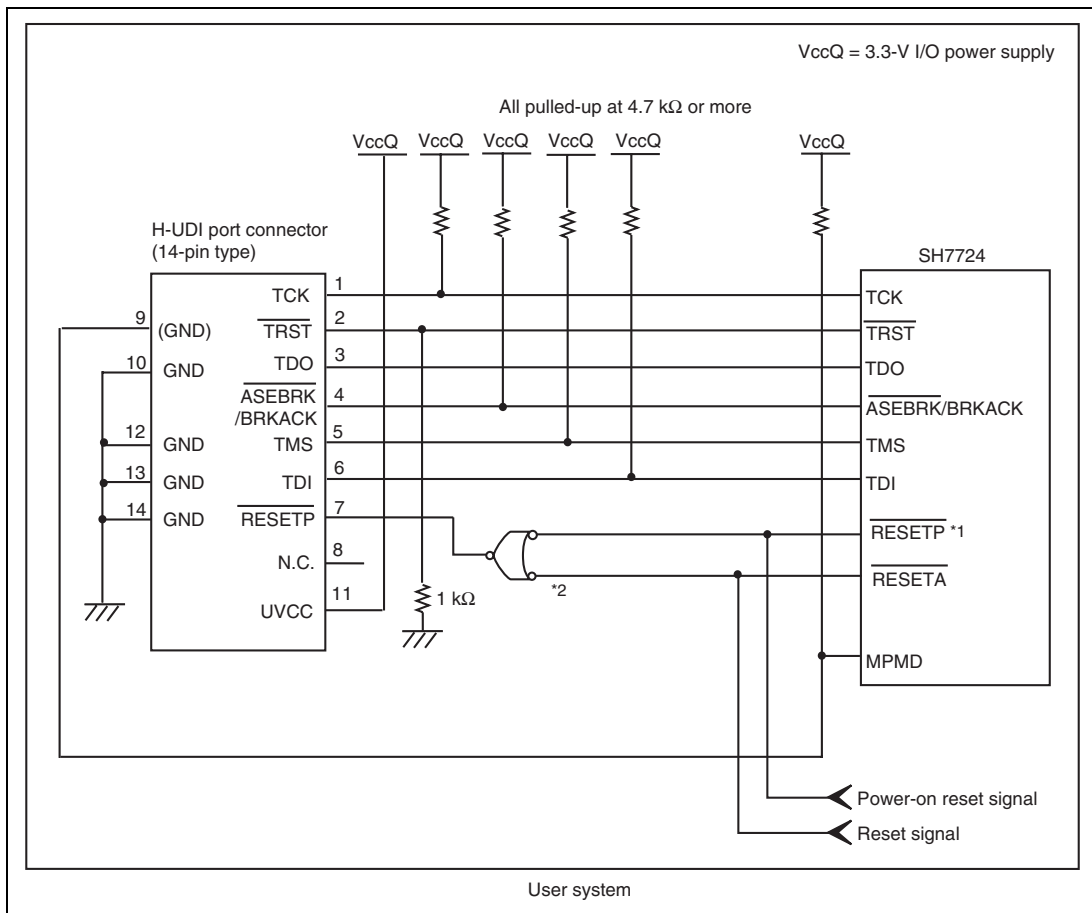

Figure 1.6 Recommended Circuit for Connection between the H-UDI Port Connector and MPU when the Emulator is in Use (14-Pin Type)
5. Connect RESETP# and RESETA# to the user system if required, as shown in figure 1.6.
Figure 1.6 shows a recommended circuit for connection between the H-UDI port connector (14 pins) and the MPU when the emulator is in use.
- (1) When the emulator is used: MPMD = 0
- (2) When the emulator is not used: MPMD = 1Figure 1.6 shows an example of circuits that allow the MPMD pin to be GND (0) whenever the emulator is connected by using the user system interface cable. When the MPMD pin is changed by switches, etc., ground pin 9. Do not connect this pin to the MPMD pin.
7. The resistance values shown in figure 1.6 are for reference.
When the circuit is connected as shown in figure 1.6, the switches of the emulator are set as SW2 = 1 and SW3 = 1. For details, refer to section 3.8, Setting the DIP Switches, in the SuperH™ Family E10A-USB Emulator User's Manual.